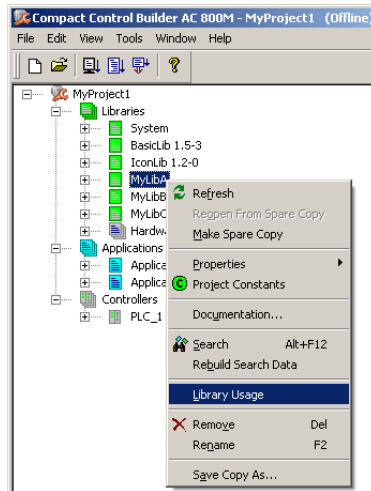

Figure 34. Library Usage
1. Right-click the library and select Library Usage as in Figure 34. The Library Usage dialog is displayed with list of applications where the library is connected as in Figure 35.